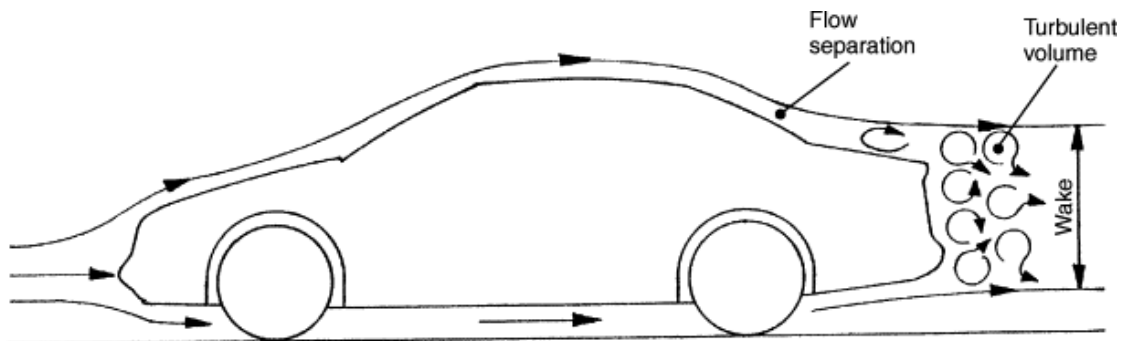
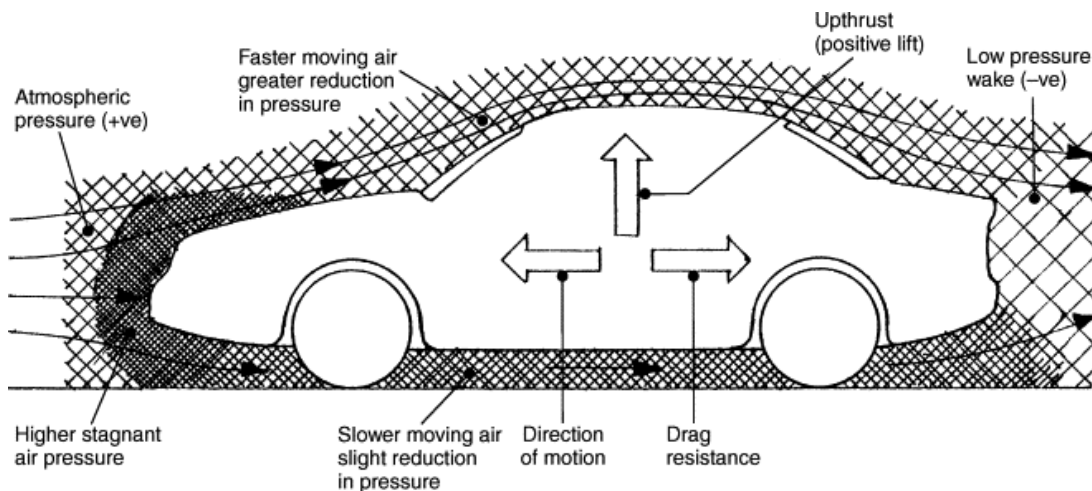

Figure 4: Airflow over a vehicle and the turbulent wake produced at the rear bumper. (1)
Figure 5: Car force diagram and air streamline visualization. (1)
In this investigation, the main fluid flow phenomena that is being analyzed is drag and turbulence in relation to a car's aerodynamics. Aerodynamics is "the study of a solid body moving through the atmosphere and the interaction which takes place between the body surfaces and the surrounding air with varying relative speed and wind direction" (1). Much research is done surrounding improving the aerodynamic efficiency of vehicles, as creating as little resistance as possible will improve fuel efficiency, acceleration times, and top speed (2). One of the key values that car designers seek to decrease is the drag coefficient, where drag simply acts as aerodynamic friction that opposes the intended direction of the vehicle (3). This can be shown in Figure 5 where air flows fast and smoothly over the hood, windshield, and roof, but the flatter front bumper creates higher-pressure slow-moving air that leads to drag. In terms of the Ferrari model in the image, it is very well designed with a low and smooth front bumper and hood area that lessen the drag as much as possible, but one can still see fog that makes hard turns to travel under the vehicle or around the sides which increases the drag. Another great aspect of this car that can be seen is that the fog is channeled above the front fenders smoothly to reduce drag and increase downforce on the front tire, but it is then directed into the rear air intakes behind the doors to be used in the high-performance rear engine. Even still, this car had a somewhat higher drag coefficient for supercars of 0.36, but as a rear-wheel-drive vehicle, the engineers prioritized rear downforce to improve handling and decrease lift (5). Using this value and Equation 2 below, one can determine the drag force at any velocity, but unfortunately this cannot be computed for this experiment as the simulated velocity in the simple wind tunnel cannot be determined. The other aspect of the car that should be minimized and is demonstrated in the image is turbulence. Figure 4 below demonstrates the airflow over the car where smooth laminar flow is found at the front and top of the car travelling over well-designed surfaces, and rough, turbulent flow is found at the rear of the car when the air moves away from these surfaces (1). The goal is to have laminar flow, which also helps reduce drag, and is represented by low Reynolds numbers and reduce turbulent flow in the cars wake, which is represented by high Reynolds numbers (6). Unfortunately, in this experiment the fog was not thick enough at the rear of the car to estimate the Reynolds number using Equation 1 below, but visually one can see that the fog travelling over the hood and front fenders appears to